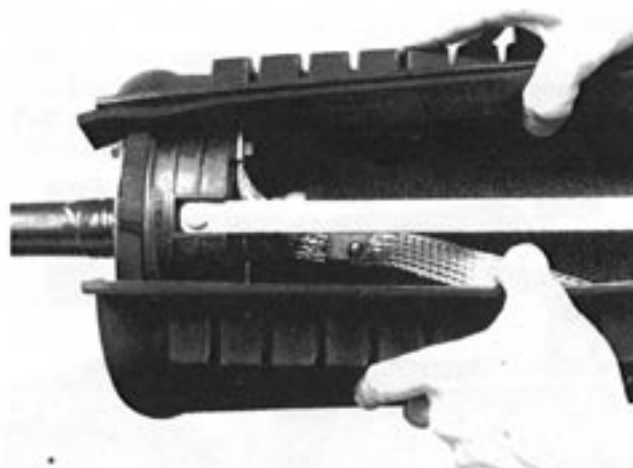

Figure 35 — Shell Application
12.01 Apply the shell over the End Plates by spreading the opening until the shell fits over the End Plates. Figure 35.